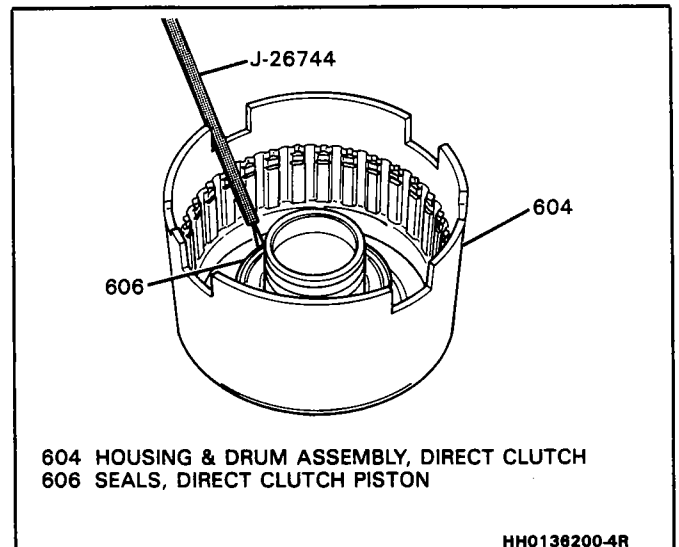

**Figure 62 Removing and Installing a Check Valve Retainer and Ball Assembly**
**→←** Install or Connect (Figure 62)